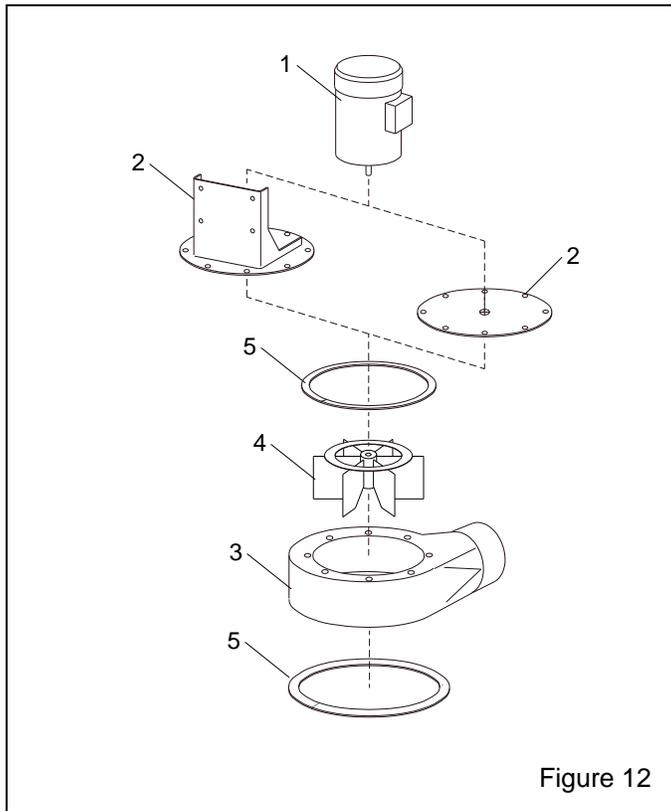

Figure 12
9.4 Exhauster Assembly, Figure 12